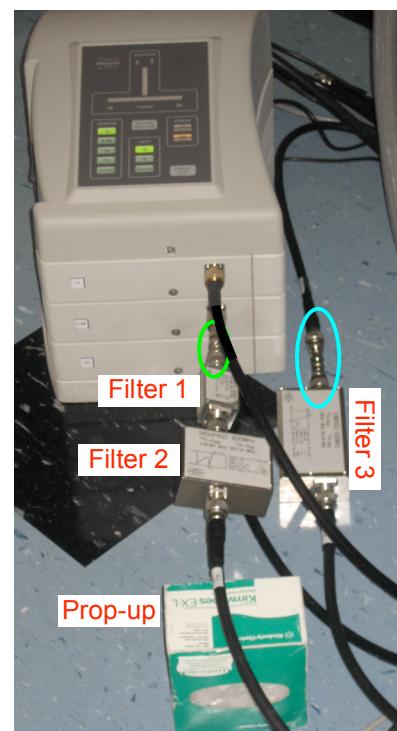

Figure 5: HPPR and filters in standard configuration
- Disconnect BNC on ^{15}N channel (indicated **blue** in Figure 5)
- Disconnect BNC on ^{13}C channel (indicated **green** in Figure 5) and leave it disconnected on the floor
- The filters have to be connected back to the original positions as shown in Figure 5.